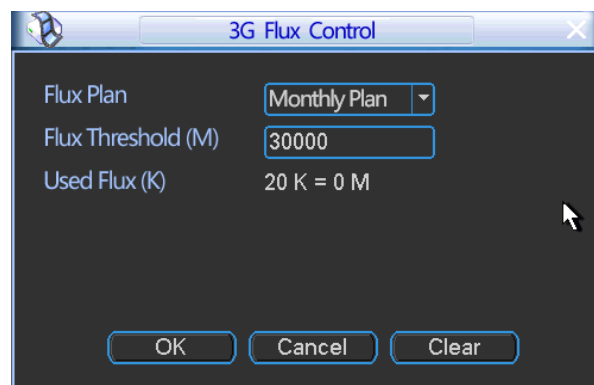

Figure 5-18
- 3G flow control: It is to show the 3G flow you used. See Figure 5-18.